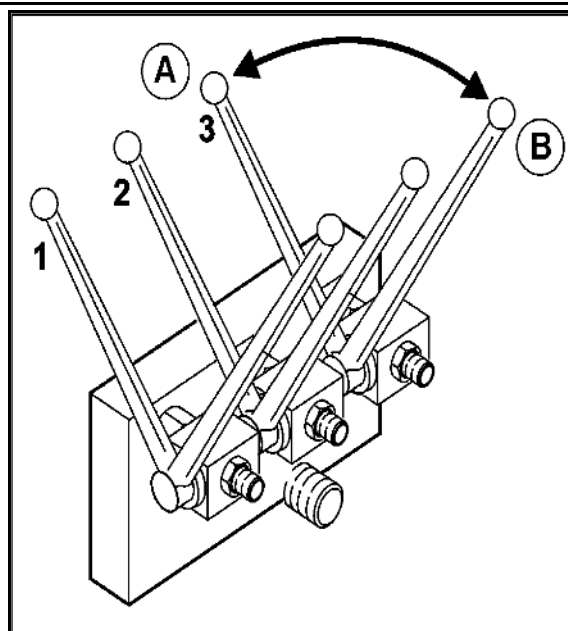

Fig. 40
2. Close the actuating lever (Fig. 40/3) for Limiter M.